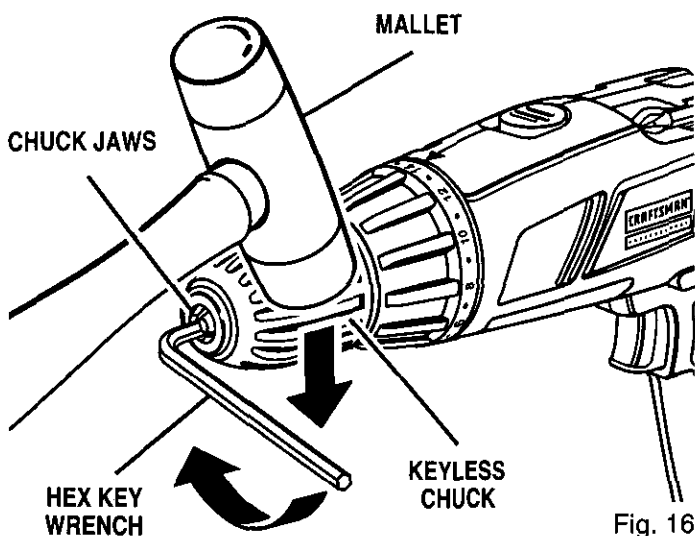

Fig. 16
See Figures 16, 17, and 18.
- Tap the hex key wrench sharply with a mallet in a clockwise direction. See Figure 16. This will loosen the screw in the chuck for easy removal.